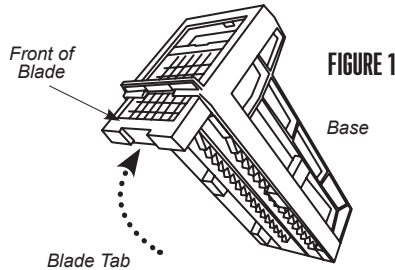

FIGURE 1
1. Insert the Blade, Blade Tab end first up through the slot in the bottom of the Base. The front of the Blade will face outwards (FIGURE 1). The Blade will click into place.